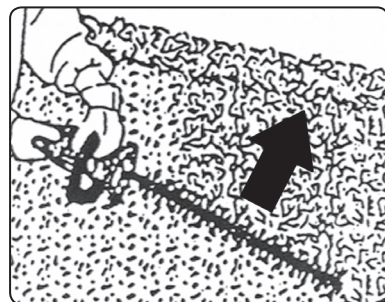

Fig. 2
- Start trimming the hedge by trimming the sides in balanced and appropriate movement of the trimmer from bottom up, see fig. 2.